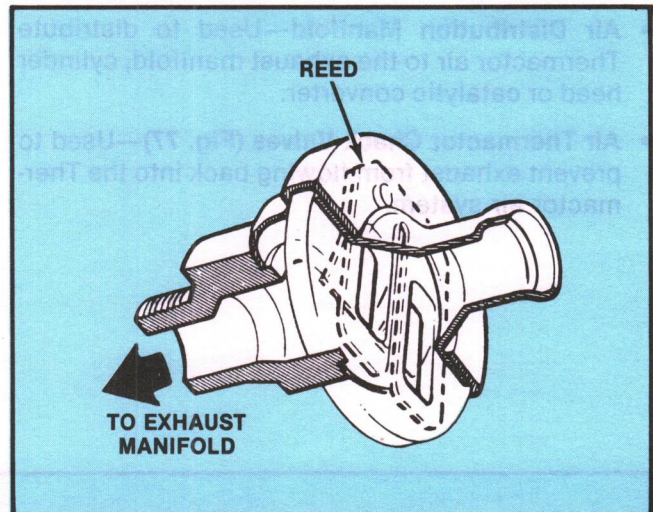

Figure 79. Typical Thermactor Air Check Valve
- When pressure in the exhaust system is greater than the pressure in the air cleaner, the reed valve (Fig. 79) inside the air check valve closes.